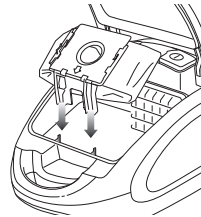

Fig. 14
- 7** Gently slide the holder back into its grooves as far as it will go and close the cover. (Fig. 14)